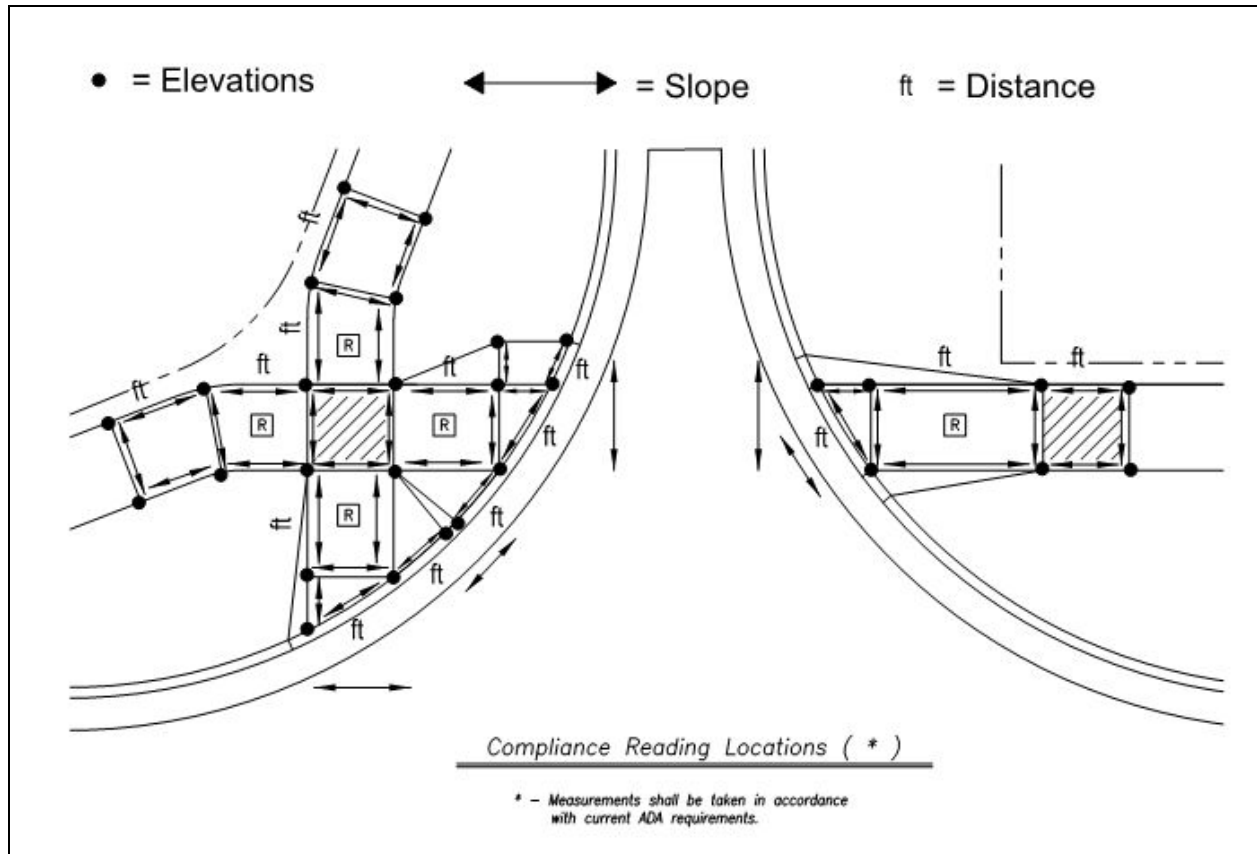

Figure 1 - Compliance Reading Locations for Sidewalk Ramps and Pedestrian Street Crossings in the Public Street Right of Way.
4. **Effective for PIP permits issued after May 1, 2019:** In order to help ensure construction of Americans with Disabilities Act (ADA) compliant sidewalks ramps, any sidewalk ramps and pedestrian street crossings constructed with the public improvements shall include the following as-built information at the locations shown on Figure 1.